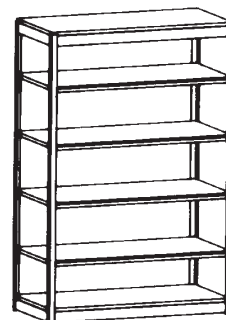

FIG. 4
- Place one particle board decking on each shelf. See Figure 4.